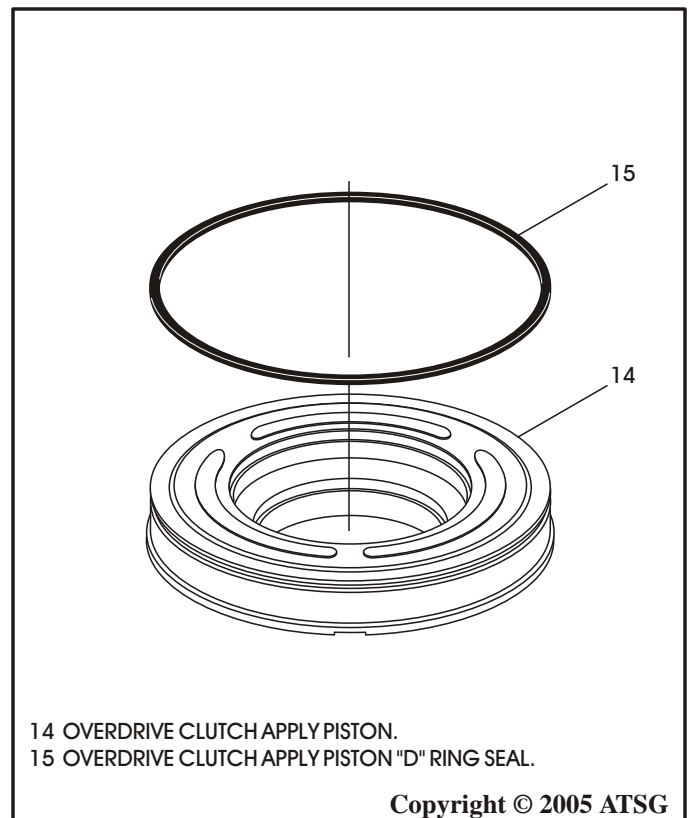

Figure 79
6. Install new outer "D" ring seal onto overdrive clutch apply piston, as shown in Figure 79, and lube with small amount of Trans-Jel®.